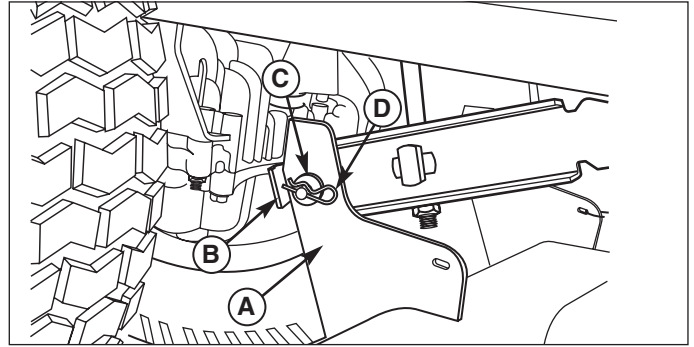

Figure 4. Lift Arms (Viewed from underneath right side of tractor)
4. Remove hair pin (D, Figure 4) and washer (C). Disconnect the mower lift plates (A) from the tractor lift arms (B). Re-install washers (C) and hair pins (D) to prevent loss.
4. Re-install hair pins (D, Figure 4) and washers (C) into the mower lift plates (A) and the tractor lift arms (B).